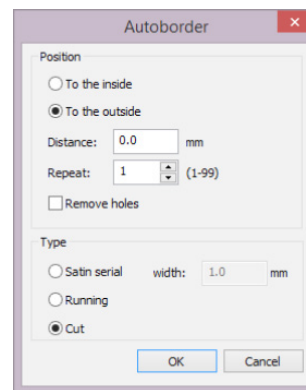

Fig. 22
9. Place bullets to select **To the Outside** and **Cut** (See Fig. 22). Distance = 0.0 <OK>